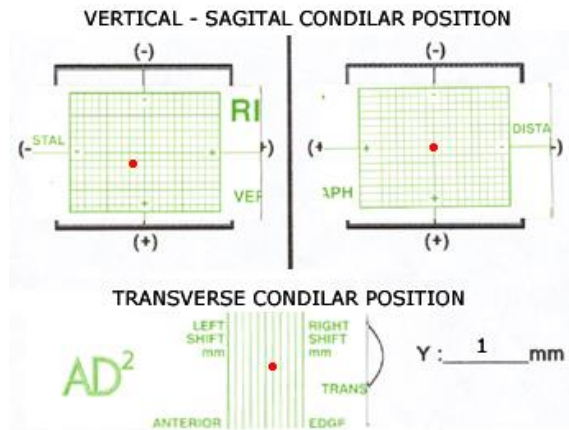

Figure 4. MCD graphs.
By means of millimetered graph papers that are placed on the three MCD recording tables, the position or distraction of the condyle in maximum intercuspal position (CO) can be accurately measured (Fig. 4). The graphs let us measure the discrepancies between CR and CO in all three dimensions: sagittal, vertical and transverse (the latter in tenths of a millimeter).
Area 1: the MCD graphs seen in Fig.4 are placed in this area after the condylar distraction has been recorded. The data sheet provides for three different MCD recordings.